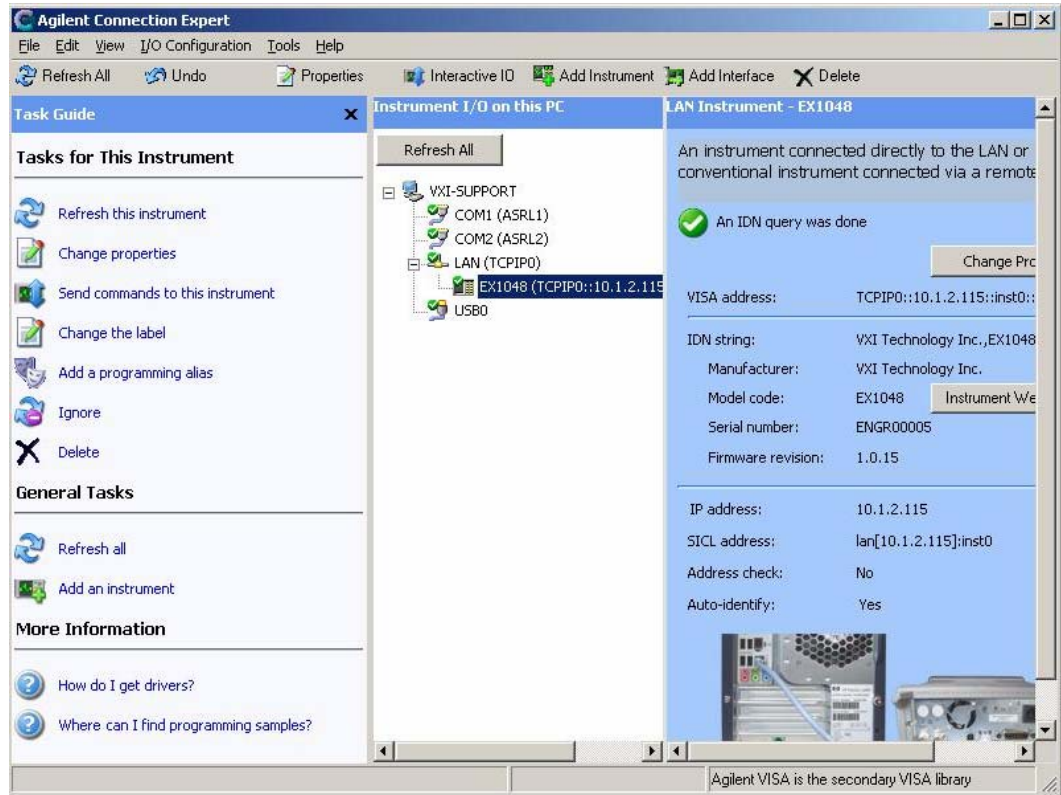

FIGURE 2-8: EX1048 DISCOVERED BY CONNECTION EXPERT
- 10) The EX1048 is now listed as a LAN instrument. Additional instruments can be added at this time or Connection Expert can be closed (See Figure 2-8).